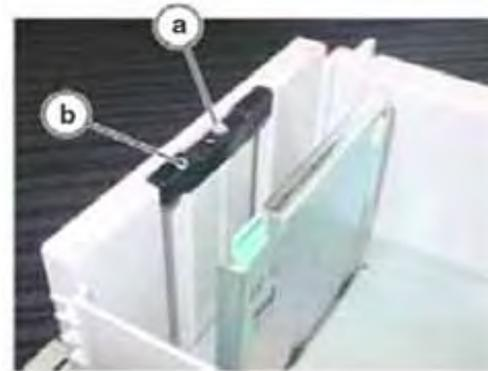

Figure 6 Guide Removal
8. Remove the Guide (Figure 6):
- Remove the Screw (1).